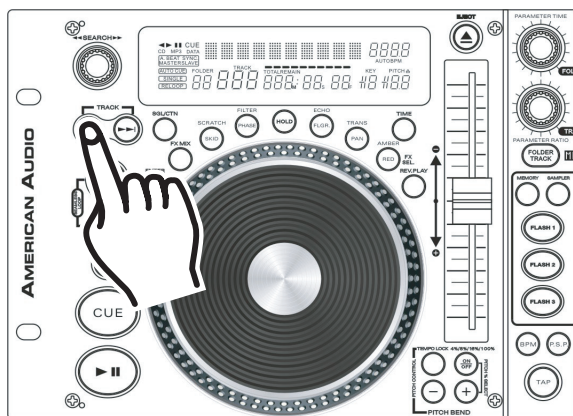
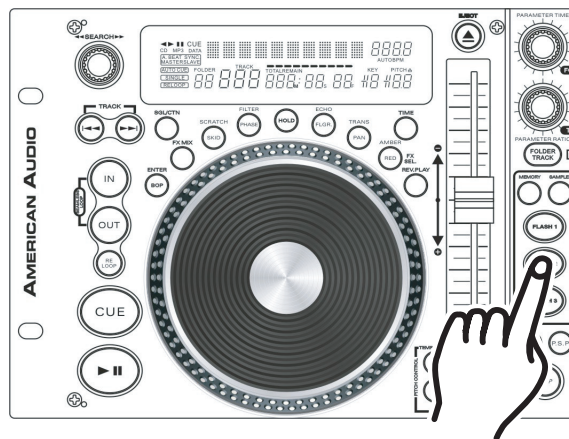

Figure 15
Figure 16
- Create a Cue Point by one of the two means listed on page 14. Press the *MEMORY BUTTON* (12), as in Figure 15. The red Memory Cue LED will glow indicating the store memory function has been activated. You may now press any one of the three *FLASH BUTTONS* (31) to store your cue point into memory (Figure 16). After pressing one of the *FLASH BUTTONS* (31), the corresponding Flash Button LED will flash briefly. The LED on the above the *FLASH BUTTON* (31) will remain lit indicating either a sample or cue point is stored in memory. The red Memory LED will turn off.